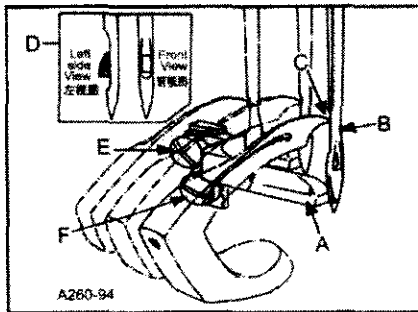
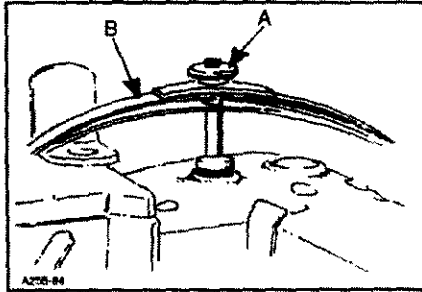
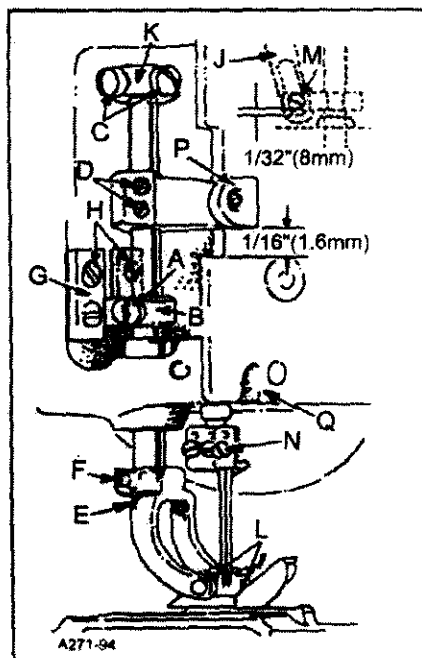

FIG.13
FIG. 14
FIG. 15
Set the rear needle guard(A, Fig. 13)horizontally so that it barely contacts needles(B)when at its extreme forward position.If adjustment is necessary loosen screw(E)and move guard front to back as required.It should be set vertically as low as possible, yet have its guarding surface in contact with the needles until the points of the loopers(C),moving to the right,are even with the right side of the needles. If adjustment is necessary loosen screw(F)and move guard and holder up or down as required.
NOTE:When installing the needle it should be parallel with the eye in line of feed.If adjustment is necessary, loosen screw(N, Fig. 15)in needle head and rotate needle to attain adjustment(D, Fig. 13).
Remove presser bar leaf spring(B, Fig. 14) and nut(B). Loosen screw(A, Fig. 15) on presser bar guide(B). Loosen screws(C) in upper collar and screws(D) in needle lever thread pull-off lever. Slide Presser bar upward high enough to slip on presser foot yoke(E) with foot attached and tighten screw(F) on flat of presser bar. Position foot so that the needle holes in the foot line up with the holes in the throat plate. Tighten screw(A).
Presser foot guide plates(G, Fig. 15) should be set so that entire presser foot and bar assembly has free movement up and down with no left to right movement.
With foot properly aligned on throat plate and presser bar guide(B, Fig. 15) securely fastened to presser bar, adjust both guide plates(G) to obtain above setting. Tighten four screws(H).
Reinstall presser bar spring(B, Fig. 14) and knob(A), with presser foot resting on throat plate.
The presser foot should be adjusted to be $1/8$ " (3.17mm) above the throat plate before the feed roller mechanism begins to rise. Loosen screw(A, Fig. 15) in presser bar lifter and guide (B), raise or lower guide as required to attain the specified point at which the feed roller begins to rise. Retighten screw(A) and maintain needle settings.
NOTE : There should be a minimum 1/32"(0.8mm) clearance between screw (M, Fig.15) and the bottom of the slot in link(J).
Regulate the pressure on the presser foot by turning the presser spring regulating knob(A, Fig. 14) located on top of pressure foot spring (B).
To remove just the presser foot, remove screws (L, Fig.15) and replace foot, retighten screws (L).